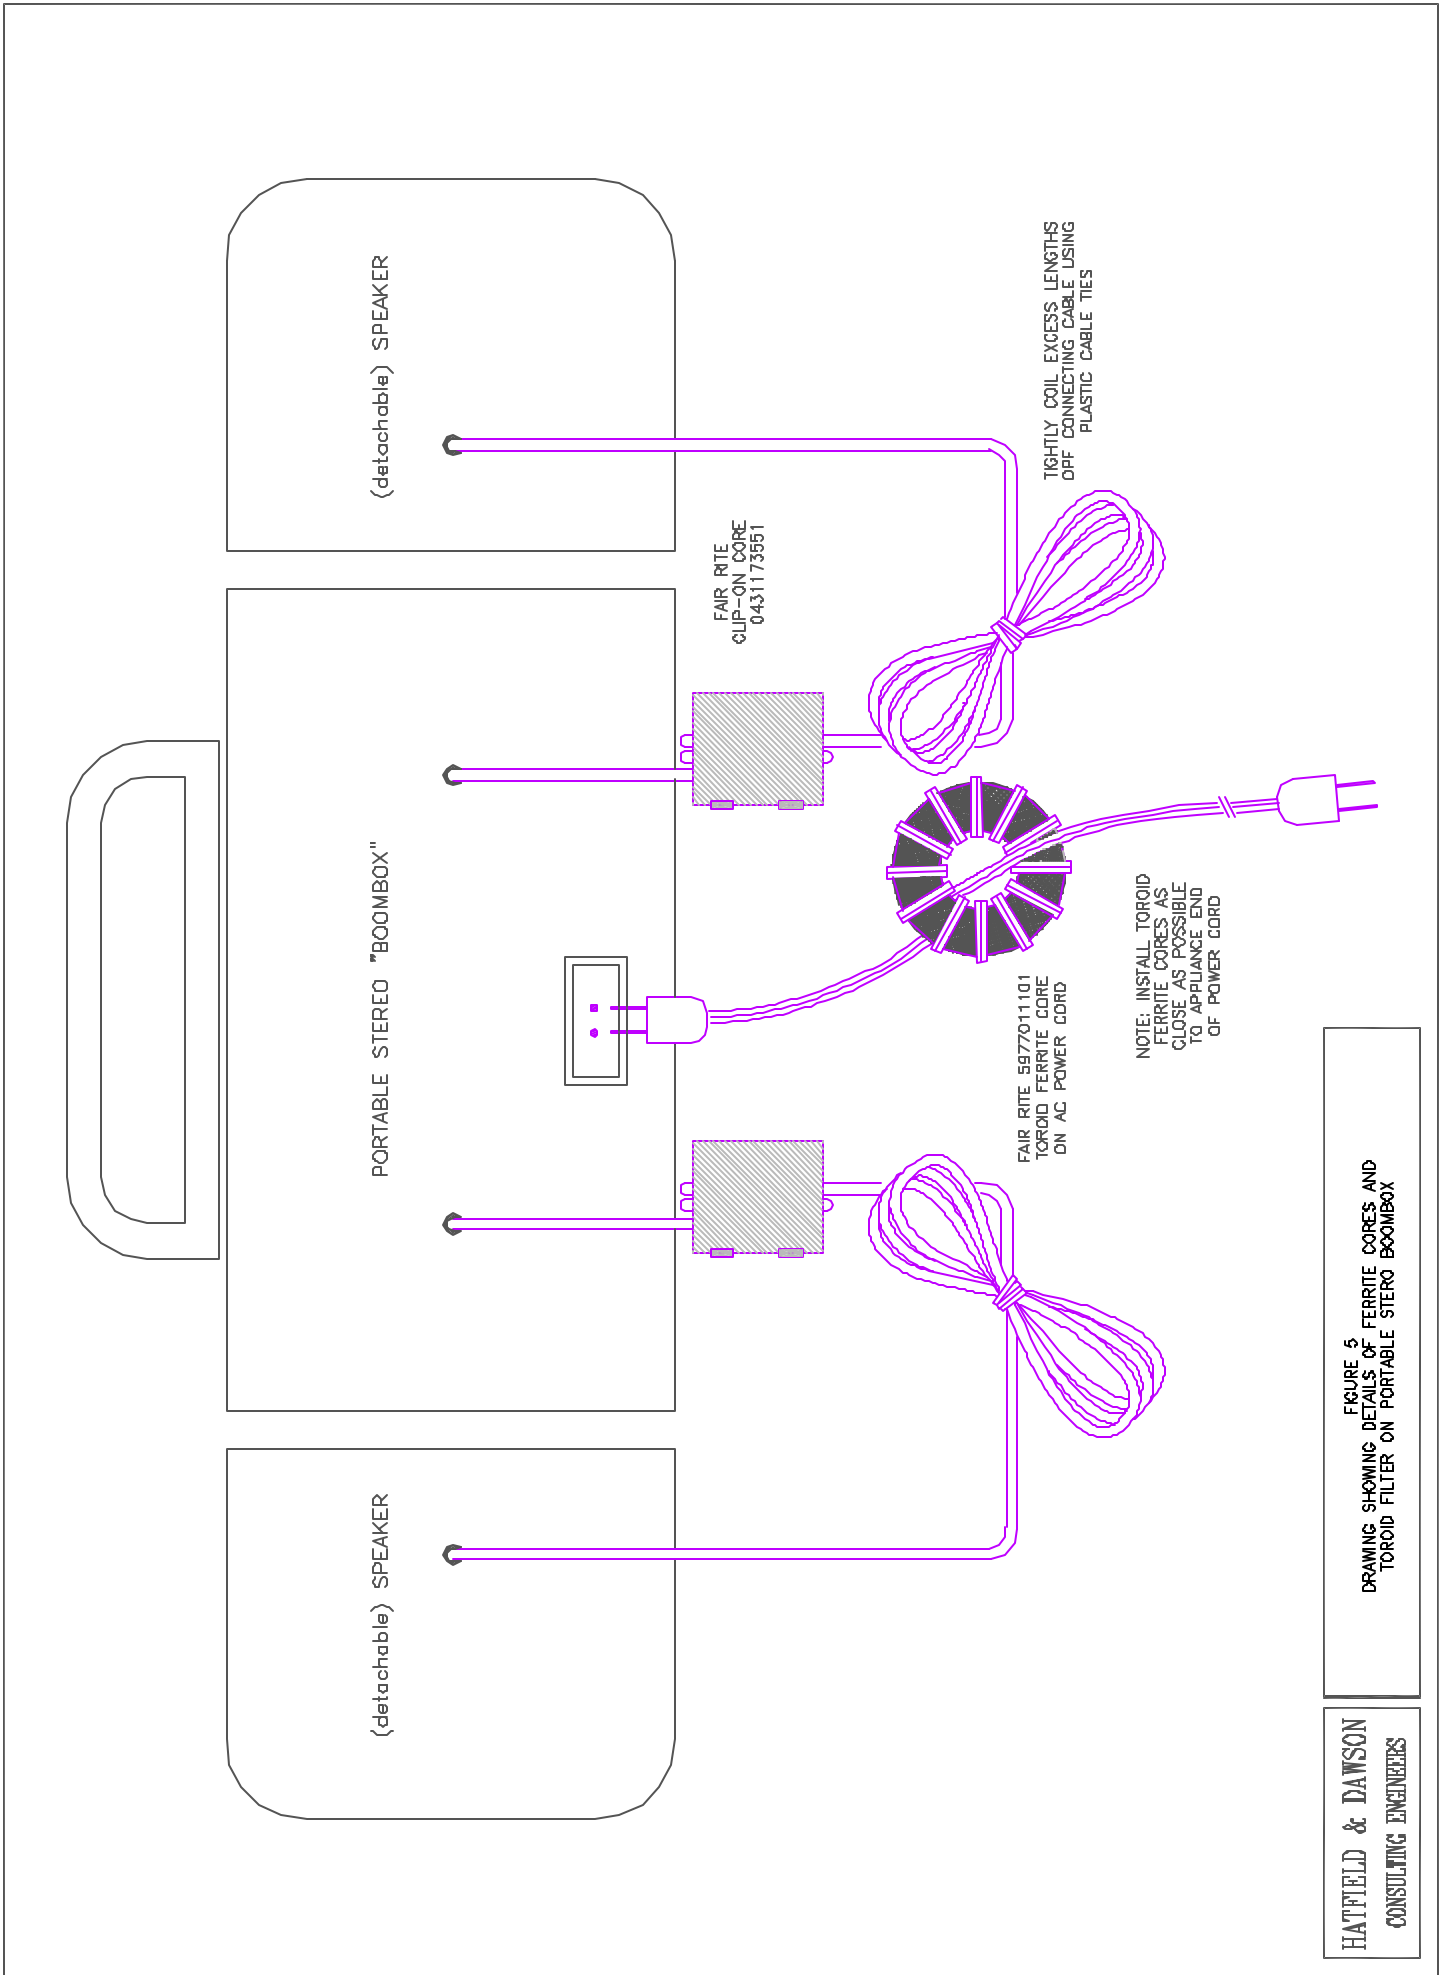

FIGURE 5
2. If the boom box has detachable speakers with external speaker leads, install clip-on ferrite cores on the speaker leads, as shown in Figure 5.